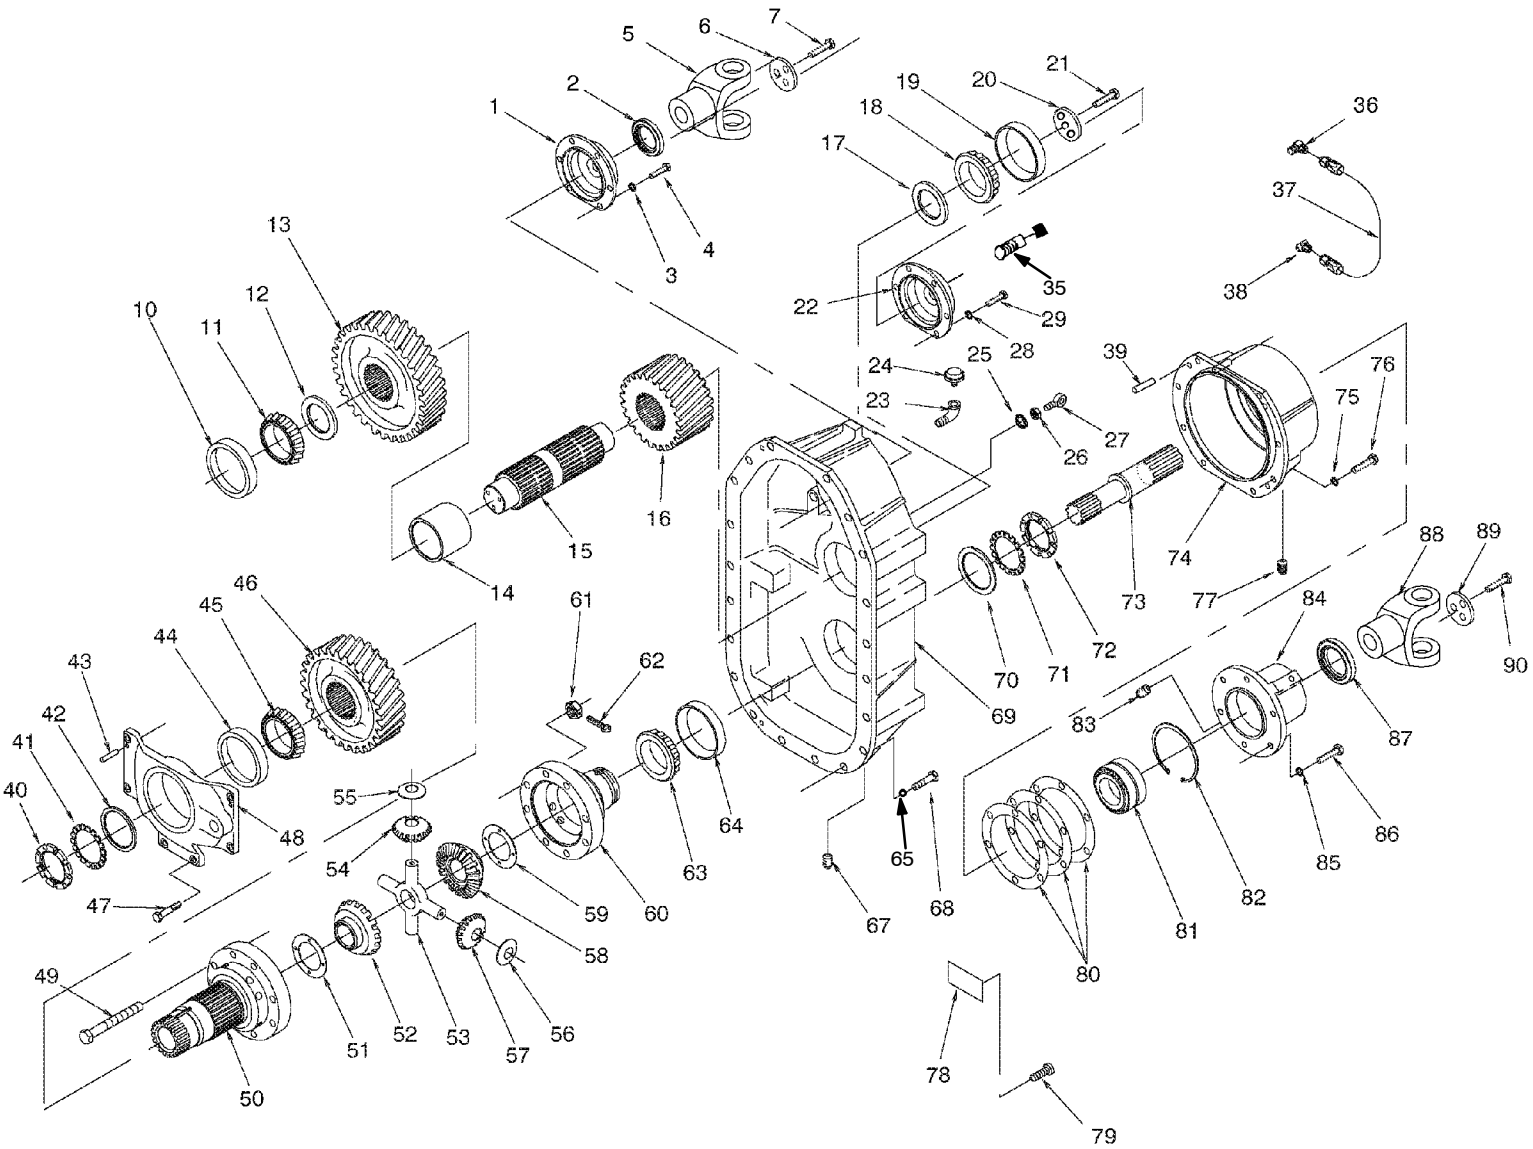

Figure 3. Transfer Case Assembly (Front Housing).
Legend for Figure 3.
- (1) Position transfer case in maintenance stand, with front housing (Figure 3, Item 69) facing up.
- (2) Remove two capscrews (Figure 3, Item 7) and end plate (6) from upper shaft (15).
- (3) Using a puller remove yoke (Figure 3, Item 5) from upper shaft (15).
- (4) Remove two capscrews (Figure 3, Item 90) and end plate (89) from shaft (73).
- (5) Using a puller remove yoke (Figure 3, Item 88) from shaft (73).
- (6) Tag and disconnect hose (Figure 3, Item 37) from adapters (36 and 38).
- (7) Remove six capscrews (Figure 3, Item 86), lockwashers (85), bearing cap (84), three shims (80) and lower front output shaft assembly from enclosure (74) and bevel gear differential.
- (8) Remove eight capscrews (Figure 3, Item 76) and lockwashers (75) from enclosure (74) and front housing (69).
- (9) Install jack bolts in holes on enclosure (Figure 3, Item 74), tighten alternately to separate enclosure from front housing (69) and dowel pin (39). Remove enclosure (74).
- (10) Using a suitable lifting device, remove bevel gear differential assembly from transfer case.
- (11) Remove speedometer sending unit (Figure 3, Item 35) from end cap (22).
- (12) Remove six capscrews (Figure 3, Item 29), lockwashers (28), and end cap (22), from front housing (69).
- (13) Remove oil seal (Figure 3, Item 2), six capscrews (4), lockwasher (3), and end cap (1) from front housing (69).
- (14) Loosen jam nut (Figure 3, Item 26) and remove rod end (27) and oil seal (25) from upper shift rod (Figure 2, Item 53).
- (15) Remove breather (Figure 3, Item 24), elbow (23) and adapters (36 and 38) from front housing (69).
- (27) Remove 20 capscrews (Figure 3, Item 68), and flatwashers (65) from rear housing (Figure 2, Item 66) and front housing (Figure 3, Item 69).
- (28) Using a suitable lifting device separate transfer case halves using jack bolt locations provided at top and bottom. Remove rear housing (Figure 2, Item 66) from front housing (Figure 3, Item 69) keeping it parallel to prevent binding of the shift rod assembly and dowel pins in the transfer case halves.
- (29) Using a suitable lifting device, remove center shaft assembly from front housing (Figure 3, Item 69).
- (30) Using a suitable lifting device remove upper input shaft and shift rod assembly from front housing (Figure 3, Item 69)
- (31) Remove six capscrews (Figure 3, Item 47) and bearing support (48) from front housing (69).
- (32) Remove bearing cup (Figure 3, Item 64) from front housing (66).
- (33) Remove bearing cup (Figure 3, Item 44) from bearing support (48).
- (34) Remove bearing cup (Figure 3, Item 19 and Figure 2, Item 38) from front housing (69).
- (35) Remove bearing cup (Figure 2, Item 8) and Figure 3, Item 10) from rear housing (Figure 2, Item 66).
- (1) Remove oil seal (Figure 3, Item 87) from bearing cap (84).